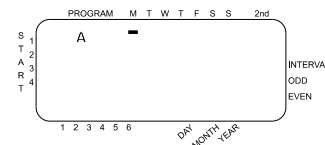

Figure 6: LCD Display with Watering Days
- Turn the rotary dial to Days of Week in program A. The display will show an "A" and the cursor will blink under the days of week M, T, W, T, F, S, S Monday, Tuesday, etc [See Figure 6].